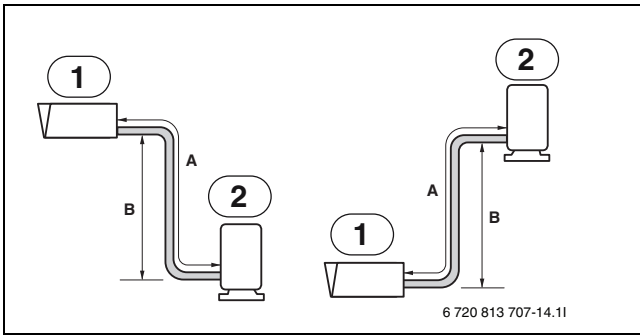

Fig. 15
2. Determine the installation direction of the pipe: for downwards see (→fig. 15)